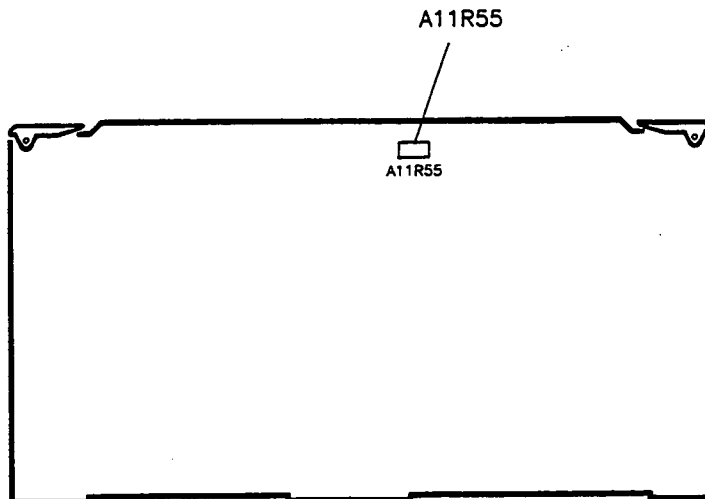

Figure 3-38. FM Gain Adjustment Location
5. Adjust A11R55 (see figure 3-38) for a minimum amplitude signal on the spectrum analyzer.